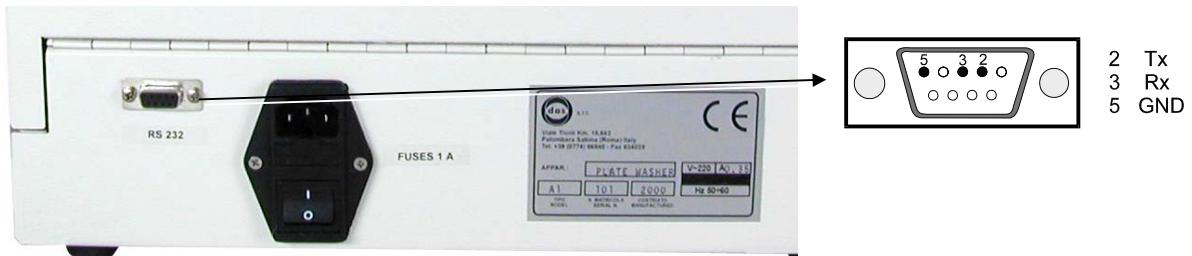

fig. 6.1 RS232 serial port location
- A 9 pins connector is available at the rear of the instrument (see fig. 6.1).